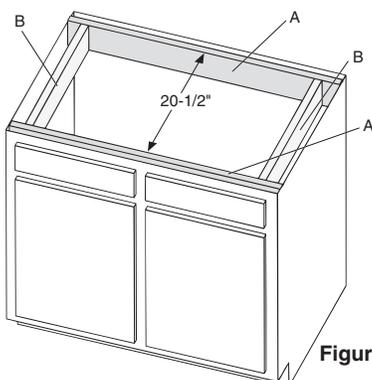

Figure 4
2. Attach two support boards to the sides of the cabinet, one in front and one in back, placing them 20-1/2" apart and equal distances from the centerline (see Figure 4-A below). Place the boards at the proper height to allow the top of the sink to be flush with the top of the cabinet. It may be necessary for you to reinforce the sides of the cabinet to support the 350-pound minimum.
4. Now that you have the sink in position, attach two more 20-1/2" boards between the support boards (See Figure 4-B.)